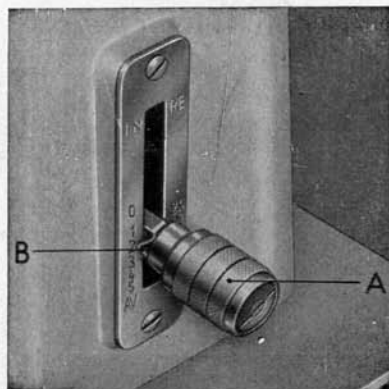

Fig. 15
- 1) Loosen stitch regulating knob « A » (fig. 15) and move it along the graduated scale until its index « B » indicates the desired length of stitch.